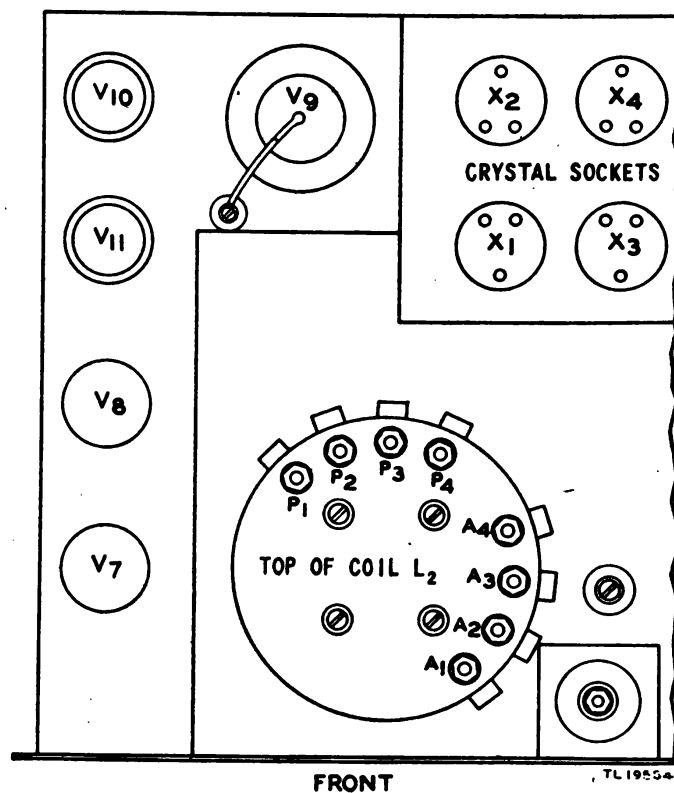

Figure 35. Transmitter presetting adjustments, showing r-f chassis—top view.
- (2) Close the front panel.
- (3) Connect the antenna to the set.
- (4) Set CRYSTAL SELECTOR switch to channel 1.
- (5) Plug in line cord and turn POWER ON-OFF switch to ON.
d. TUNING TO RESONANCE. (1) Open the front panel and set slider A1 at bottom of the tank coil L2 (fig. 35). The slider will engage in a notch when properly seated.
(2) Set slider P1 near the top of the tank coil. The setting is usually near the top of the coil for the lowest frequencies (1,700 kc) and about one-third to one-half way down the coil for the highest frequencies (2,750 kc).